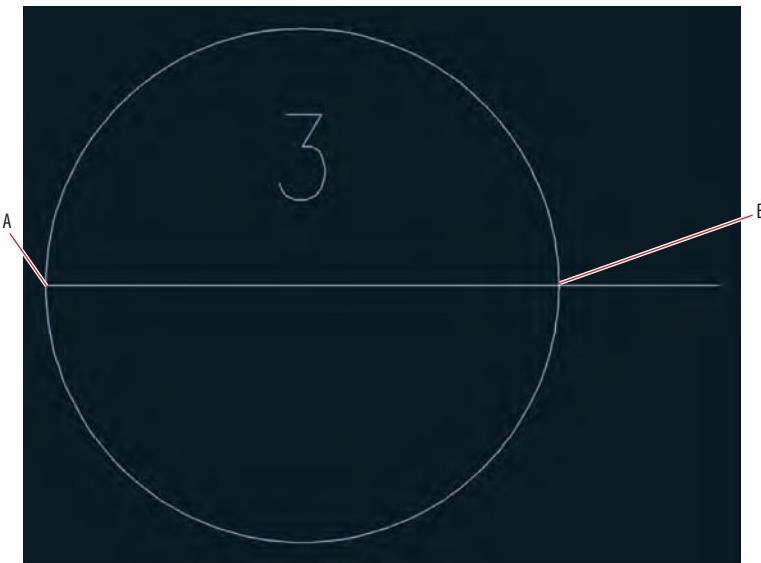

FIGURE 10.6 Mirroring text to create a duplicate text object
- 1.** Click the Mirror tool on the Modify panel, select the text object (3), and press Enter. Click the start point at A and the endpoint at B in Figure 10.6 to define the mirror. The command line reads as follows: